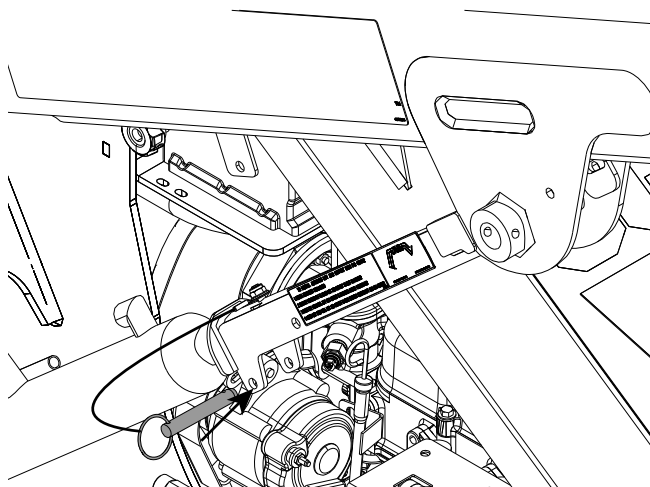

Figure 6-4. Positioning Cylinder Safety Lock
5. Insert retaining pin into lower hole. See Figure 6-4.